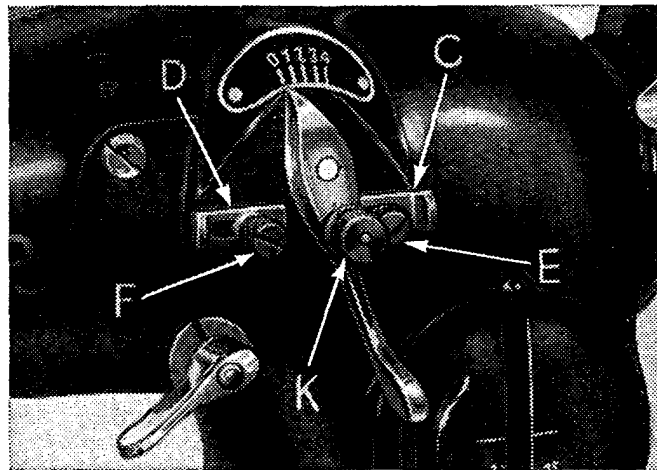

Fig. 28. Bight Lever Stops
The bight lever (A) as well as needle position lever (B) can be regulated while sewing, and can even be changed over between straight stitching and zig zag stitching as well as between various widths of zig zag stitches. If as in sewing buttonholes the operator wishes to limit the width of bight, then the stops (C & D, Fig. 28) should be used. The stop (C) limits the bight between 2 and 4 mm., and the stop (D) between 0 and 2 mm.